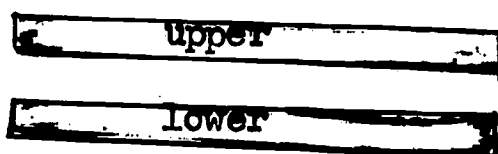

Fig. 1A Right position.
2. Go to the forming rolls and lock the upper roll in position. Adjust the lower roll to a position parallel to the upper roll. See Fig. 1a and 1b. Leave just enough clearance between the rolls for the metal to slip in under slight pressure.